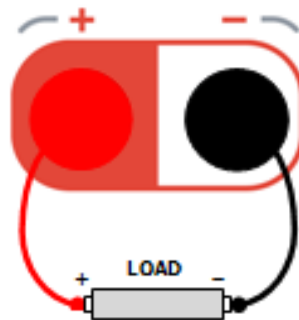

Figure 2-4 Output lead connection
1. Connect the output leads: connect the output terminals of the instrument with the load as shown in Figure 2-4.